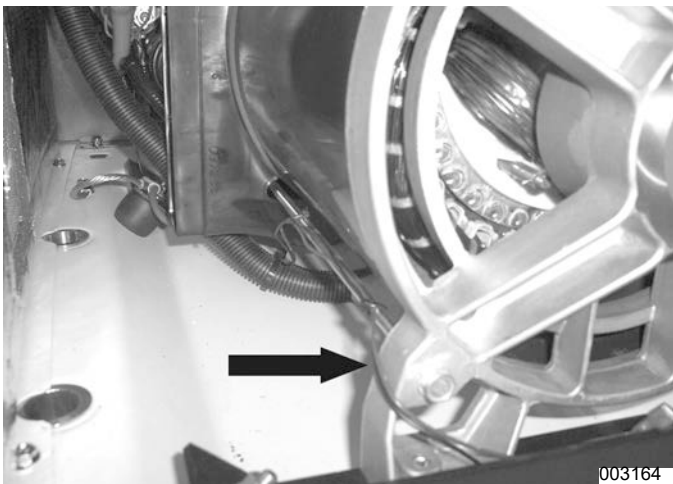

Figure 4-52.
20. **Remove Brush Wires:** See Figure 4-52. Use a side cutters to remove the tie wraps securing the brush wires to the outside of stator.